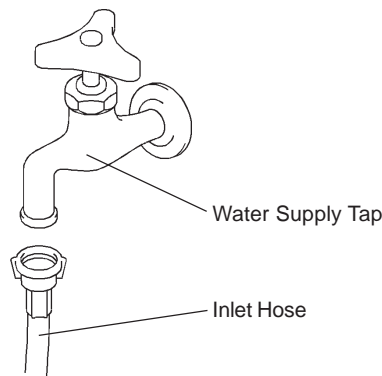

Fig. 10
- 2) Attach the other end of inlet hose to the water tap (Fig. 10), noting washer is correctly positioned before hand tightening as above.